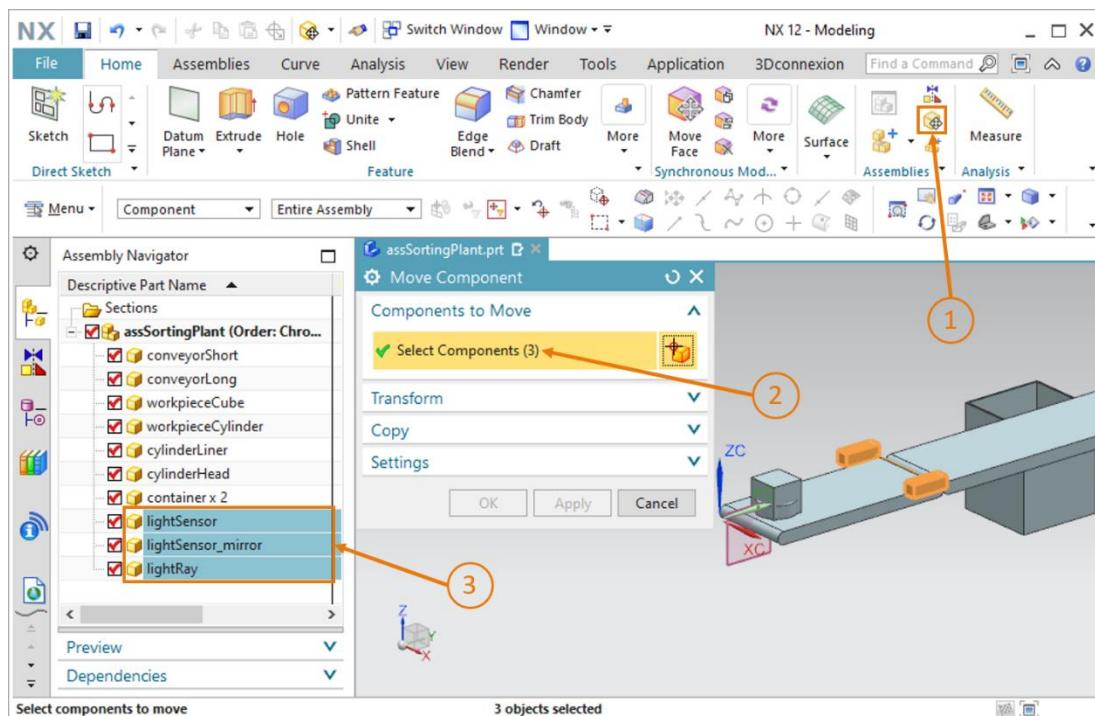

Figure 78: Moving a light sensor – Selecting the model
- To do this, open the "**Move Component**" command  in the assembly functions (see Figure 78, step 1) and click on the "**Select Components**" button in the "Components to Move" submenu (see Figure 78, step 2). Then, in the Assembly Navigator, select the models you added in Chapter 7.2.8, (see Figure 78, step 3): **lightSensor**, **lightSensor\_mirror** and **lightRay**.